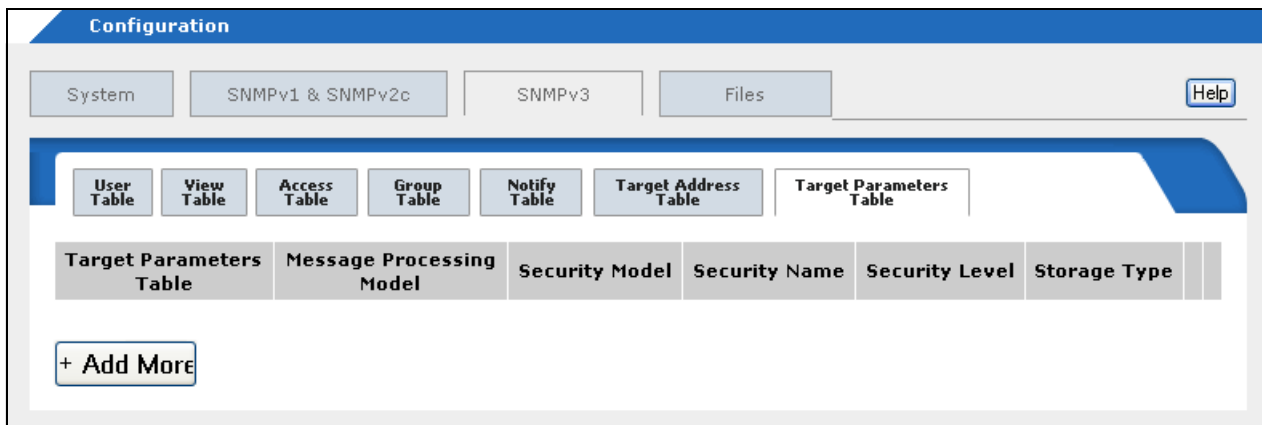

Figure 137. SNMPv3 Target Parameters Table Tab
- ❑ :Click the **Configuration** button in the menu bar and then select the **SNMPv3** tab and the **Target Parameters Table** tab. The Target Address Table tab is shown in Figure 137.